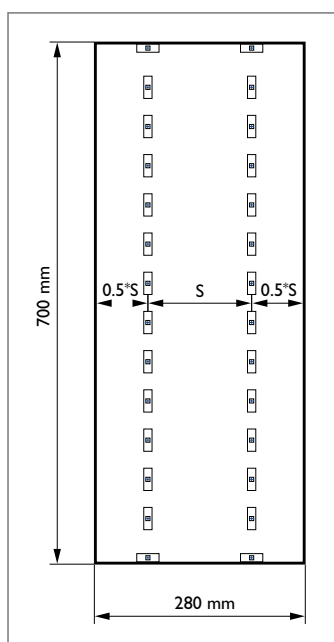

Fig. 37 LED String distribution
4. When a channel letter design requires two parallel LED strings for instance, apply the same $0.5 \cdot S - S - 0.5 \cdot S$ distribution in respect to spacing the LED strings as is common with fluorescent lamps. Refer to figure 37.